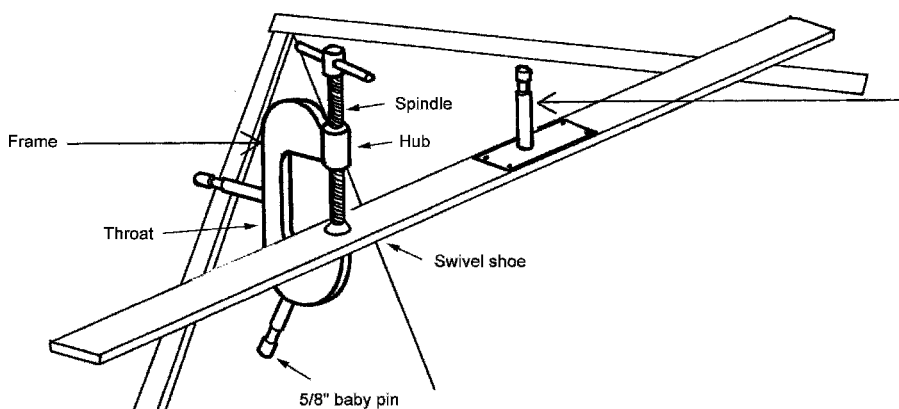

Figure 2.11 C-clamp with a baby pin and a baby-pin plate.
3. Most of the C-clamps that grips use have either a 5/8-in. baby pin or a 1-1/8 in. junior receiver mounted vertically or horizontally (Figure 2.11). Both clamps come in either pipe face or flat face.